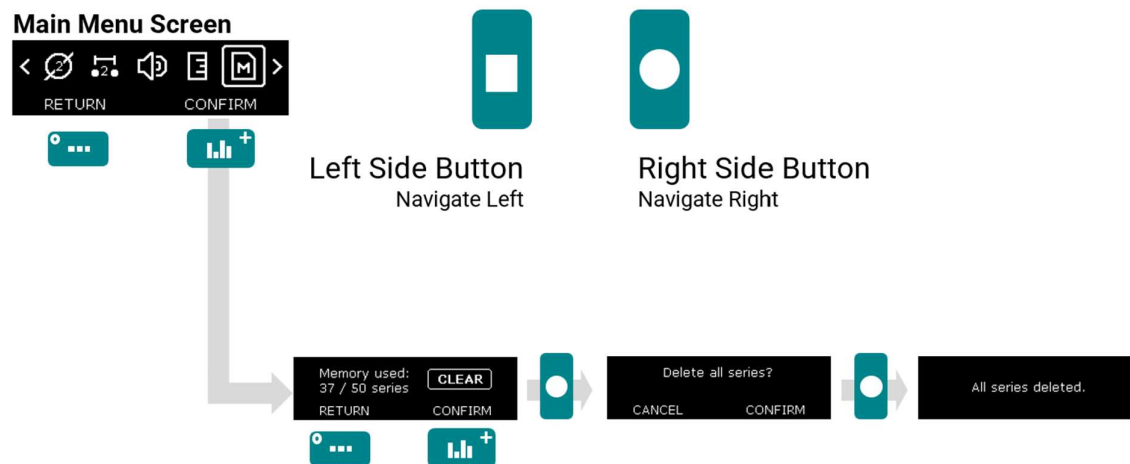

Figure 22 : Menu – Memory
2. Manually delete all spot measurements series as explained in Figure 22.